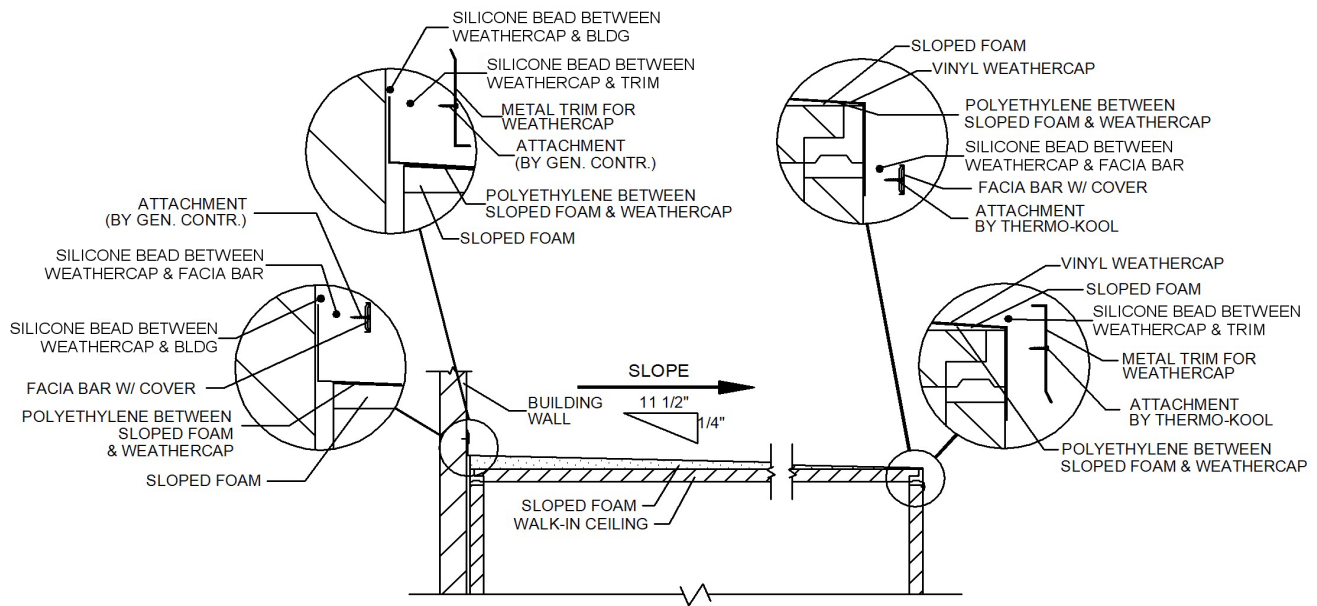

FIGURE 25 - SLOPED VINYL WEATHERCAP SECTION
- Install sloped foam on the top of the walk-in ceiling panels to control water flow from the roof (Refer to Figure 25, page 13).
Note: Where the walk-in is installed next to a building wall, the end of the vinyl weathercap must be turned upwards and attached to the building wall. The 6" overhang must be slit at the adjacent corners in order to accomplish this. Attach the metal trim in an inverted position over the vinyl weathercap and seal the seams with silicone as shown (Refer to Figure 25, page 13).